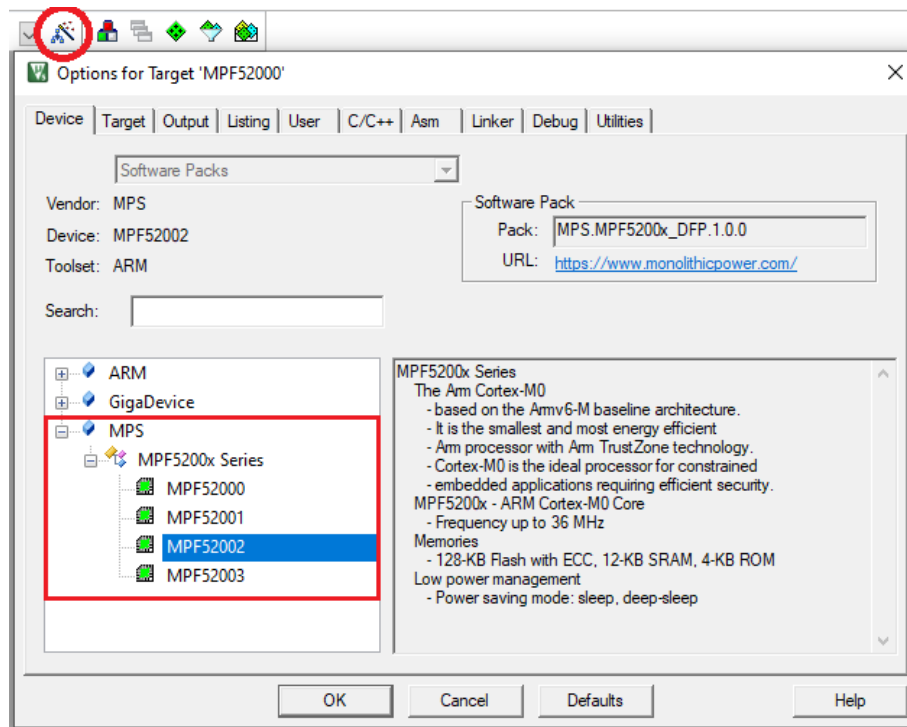

Figure 13: Selecting the MPF52002
- d. Click "Options for Target..." > "Device". MPS devices should be on the list once the software pack is correctly installed. Select the "MPF52002" and click "OK" to select the device (see Figure 13 on page 12).